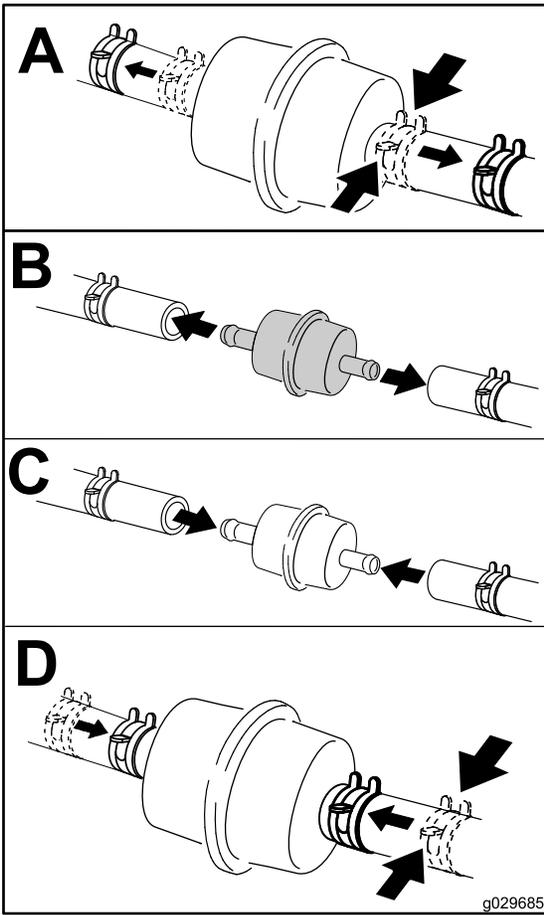

Figure 47
6. Place a clean container under the fuel filter and replace the fuel filter as shown in Figure 47.